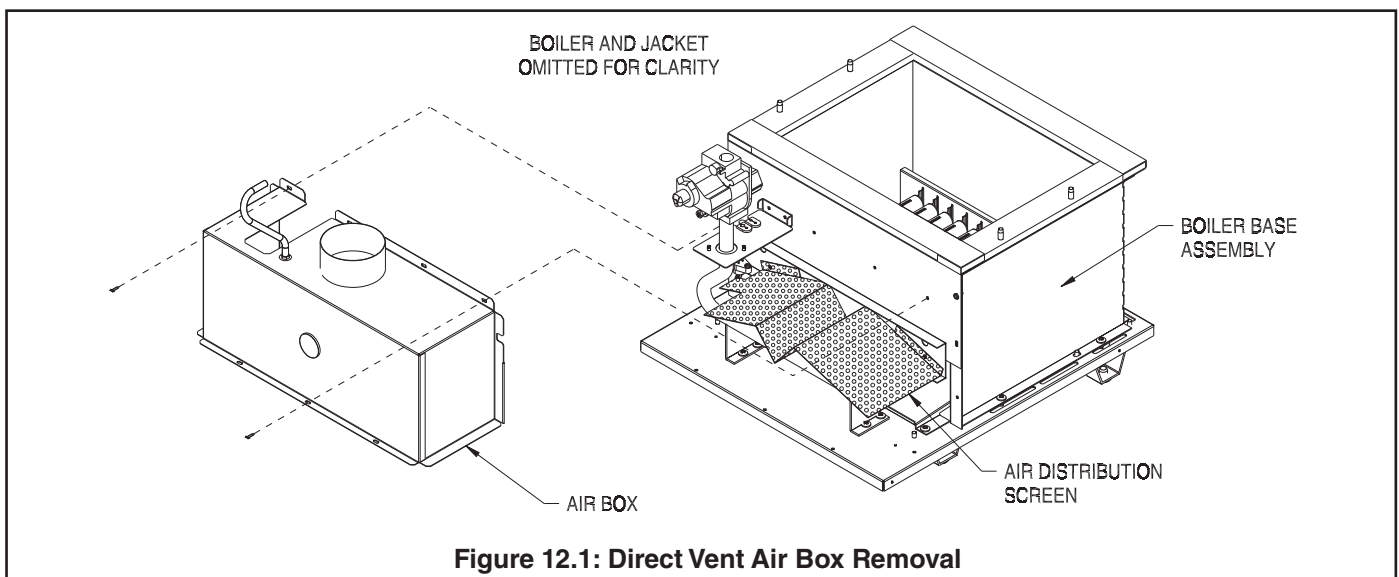

Figure 12.1: Direct Vent Air Box Removal
NOTICE: If the boiler is equipped with a **Direct Vent Conversion Kit**, it will be necessary to remove the air intake box from the boiler in order to access the burners and combustion chamber. This is done by disconnecting the air intake hose and regulator reference hose from the boiler and then removing the mounting screws holding the box in place shown in Figure 12.1.
- Check the air intake system, including the air inlet terminal and air distribution screen (Fig 12.1), for blockages, corrosion, or other deterioration.